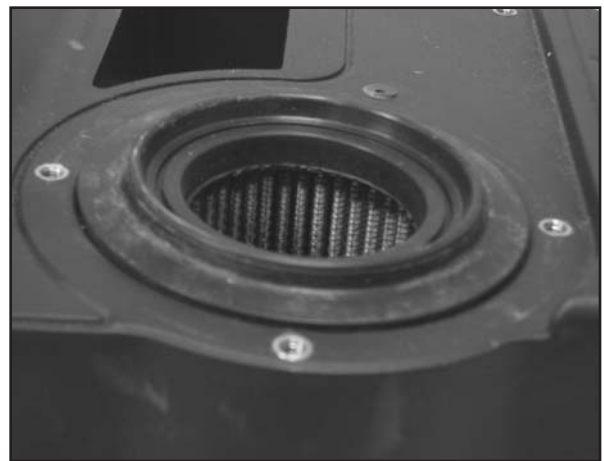

Fig. 2
3. Push the K&N Air Filter into the air box until it is flush with the surface of the air box. (Fig. 2)